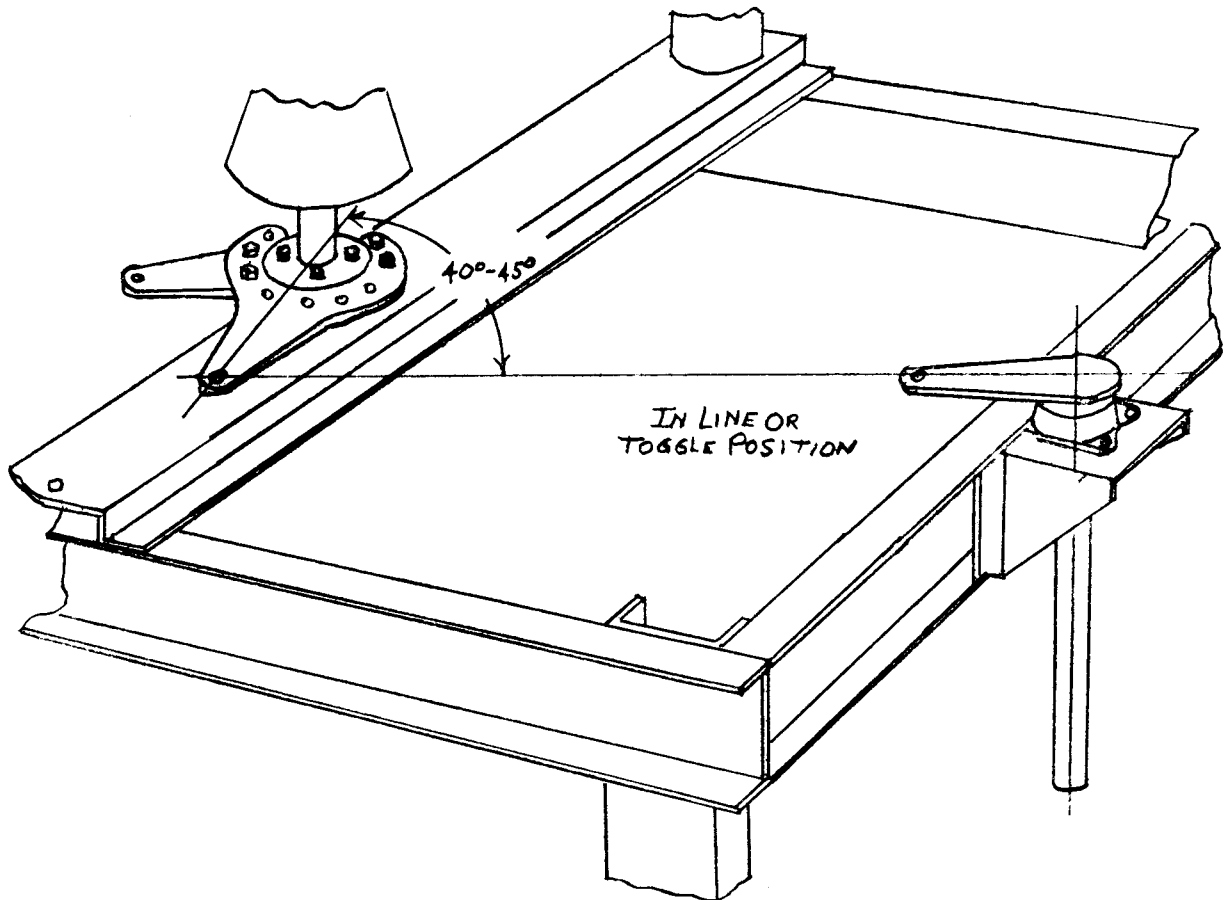

FIG. 1
- (a) On an offset mechanism, one in which an outboard bearing is used, set the outboard bearing lever in a position so that it points directly toward the hole in the driven pole unit operating lever when the pole unit is closed. This setting is shown in Figure 1.
on the rod end at this time. Do not tighten the set screws. When making this pipe connection the driven pole unit blade must be completely closed and the outboard bearing lever must be in toggle as shown in Figure 1.